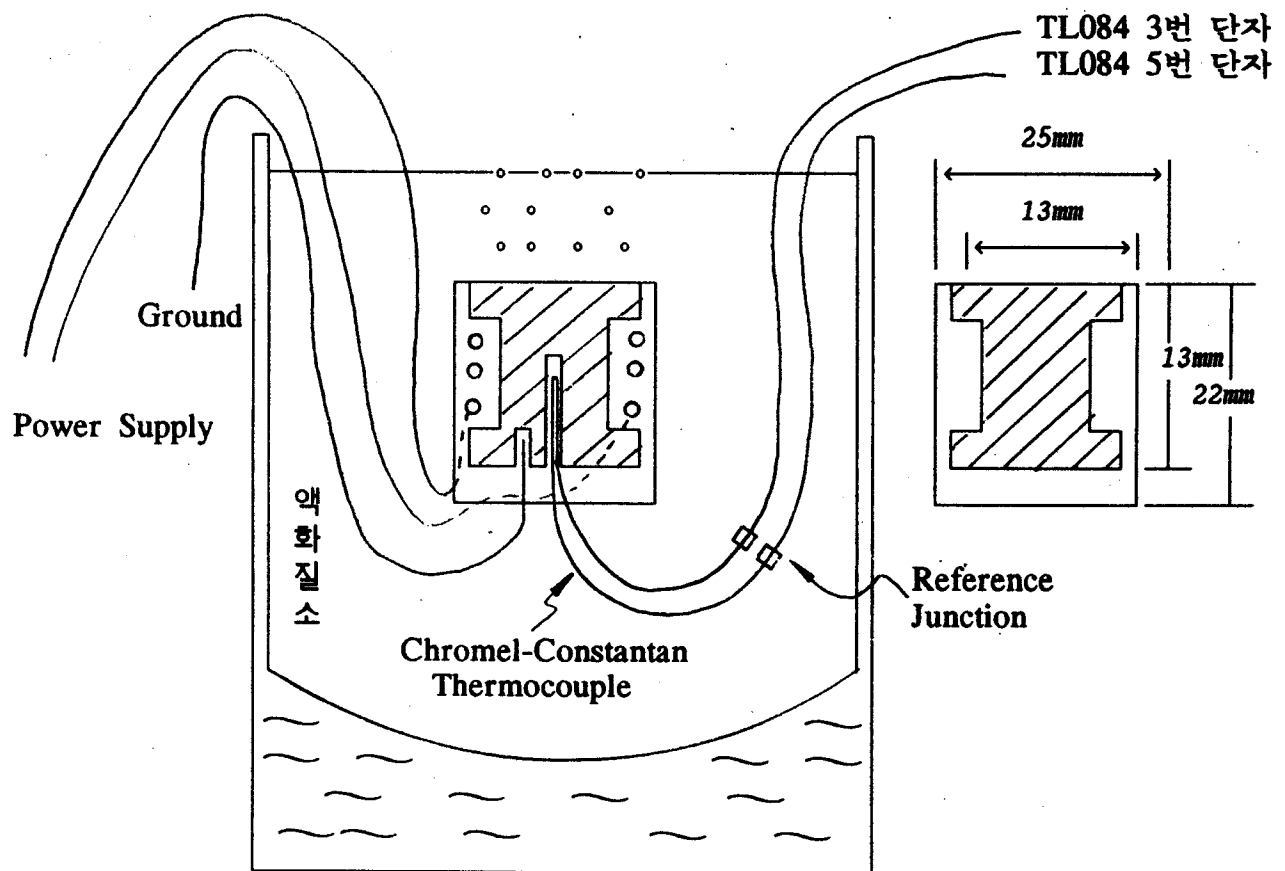

Fig.12.4 Heating in the nuclear boiling regime
2. Heating in the nuclear boiling regime(Fig.12.4) Type 'T' thermocouple